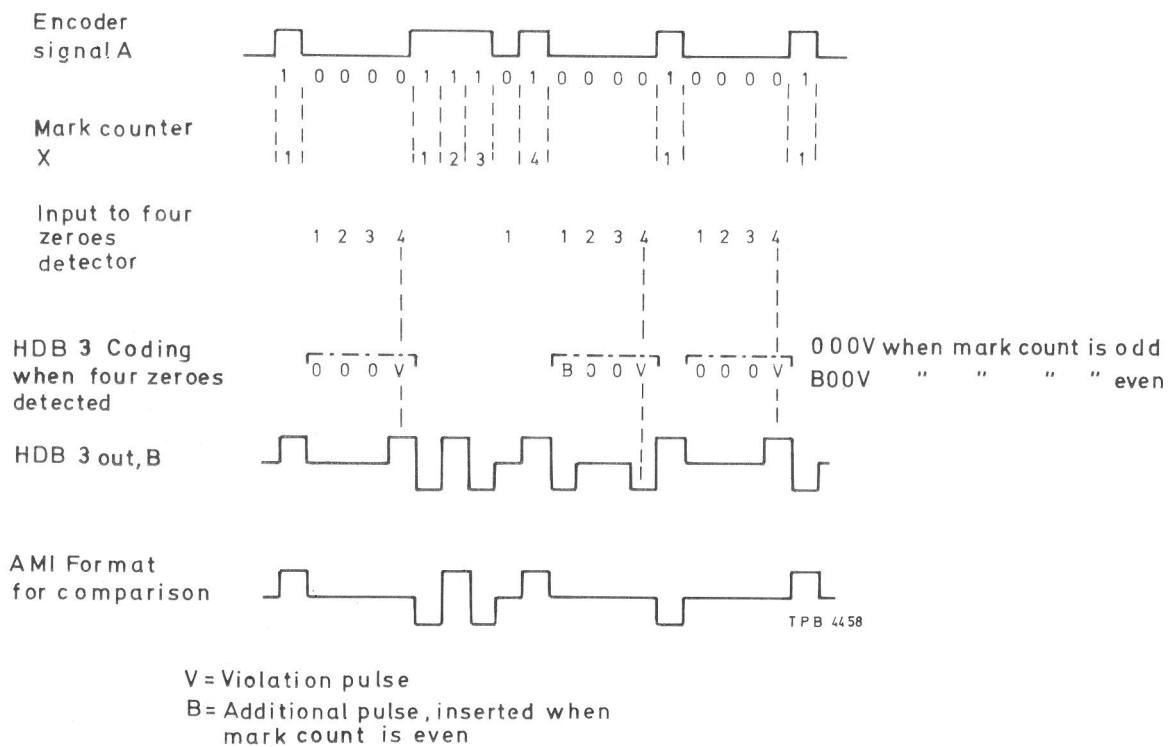

Fig. 2 Timing diagram illustrating HDB3 coding
5. Errors will be produced in a p.c.m. stream if a regenerator generates a mark when a zero was originally transmitted or vice versa. In AMI systems each error of this type will cause a violation to occur in the pulse stream which may be identified and registered. Since in HDB systems successive violations should be of opposite polarity (see Fig. 2) it is possible to identify most errors on the line.
Block diagram Fig. 4 and circuit diagram Chap. 7, Fig. 2